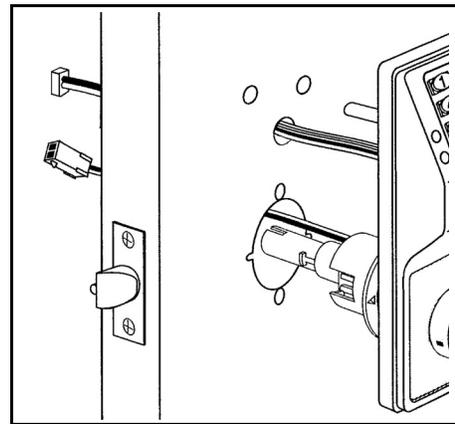

FIG. 9: INSTALL PRIMARY SIDE AND LOCK BODY
1. Insert motor wire plug through the large 2 1/8" hole and the ribbon cable through the 1" hole as shown in Fig. 9.